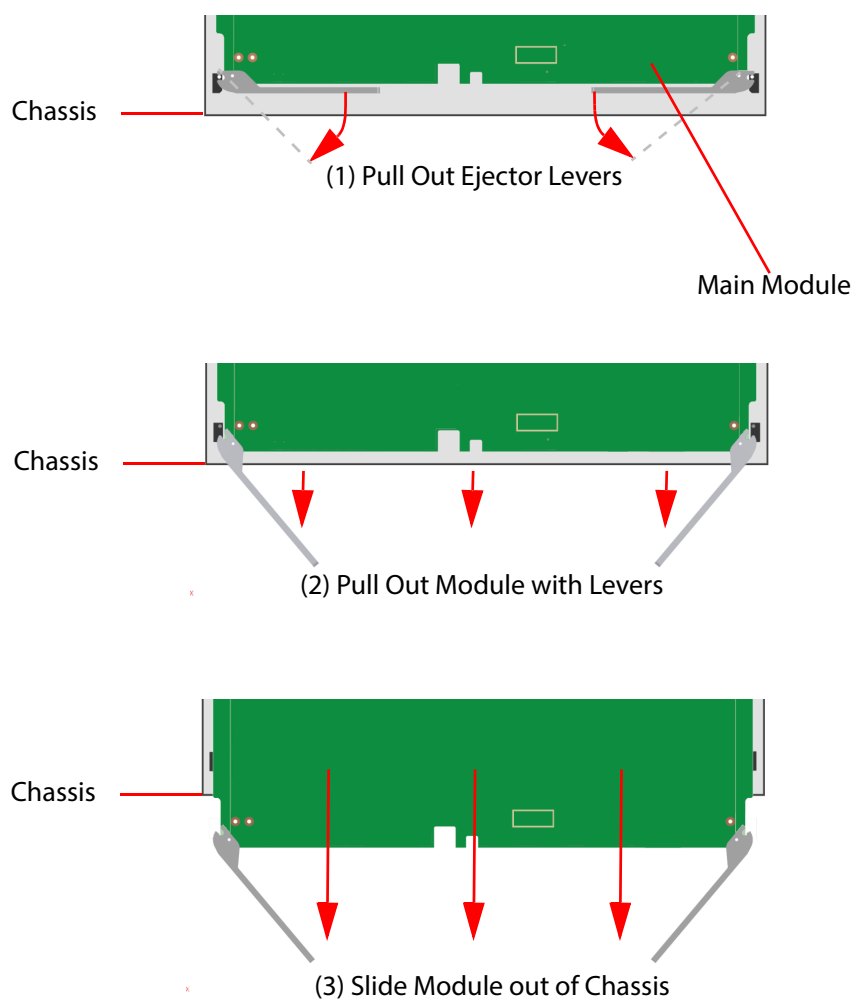

Fig. 6-10: Removing MV-821 Multiviewer Main Module
- 6 Remove the front module by pulling on the two module eject levers, which hinge on the left and right. See Figure 6-10.